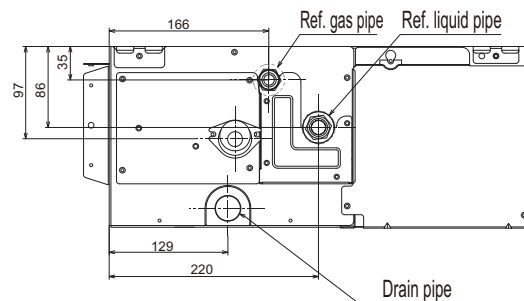

Fig. 4.1 The connection positions of the pipe (unit:mm)
- (1) The connection positions of the pipe are shown in Fig. 4.1 and Fig. 4.2.